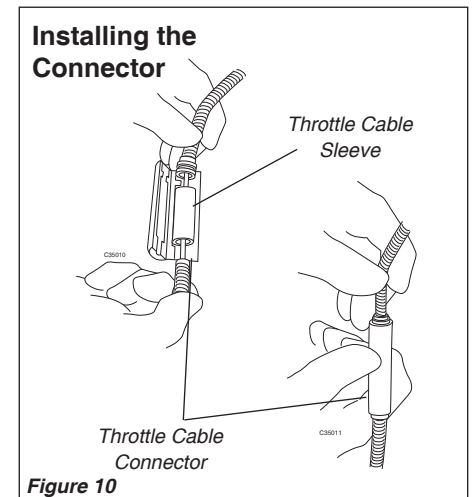

Figure 10
6. Close the throttle cable connector using hand pressure until you feel it snap into place. See Figure 10.